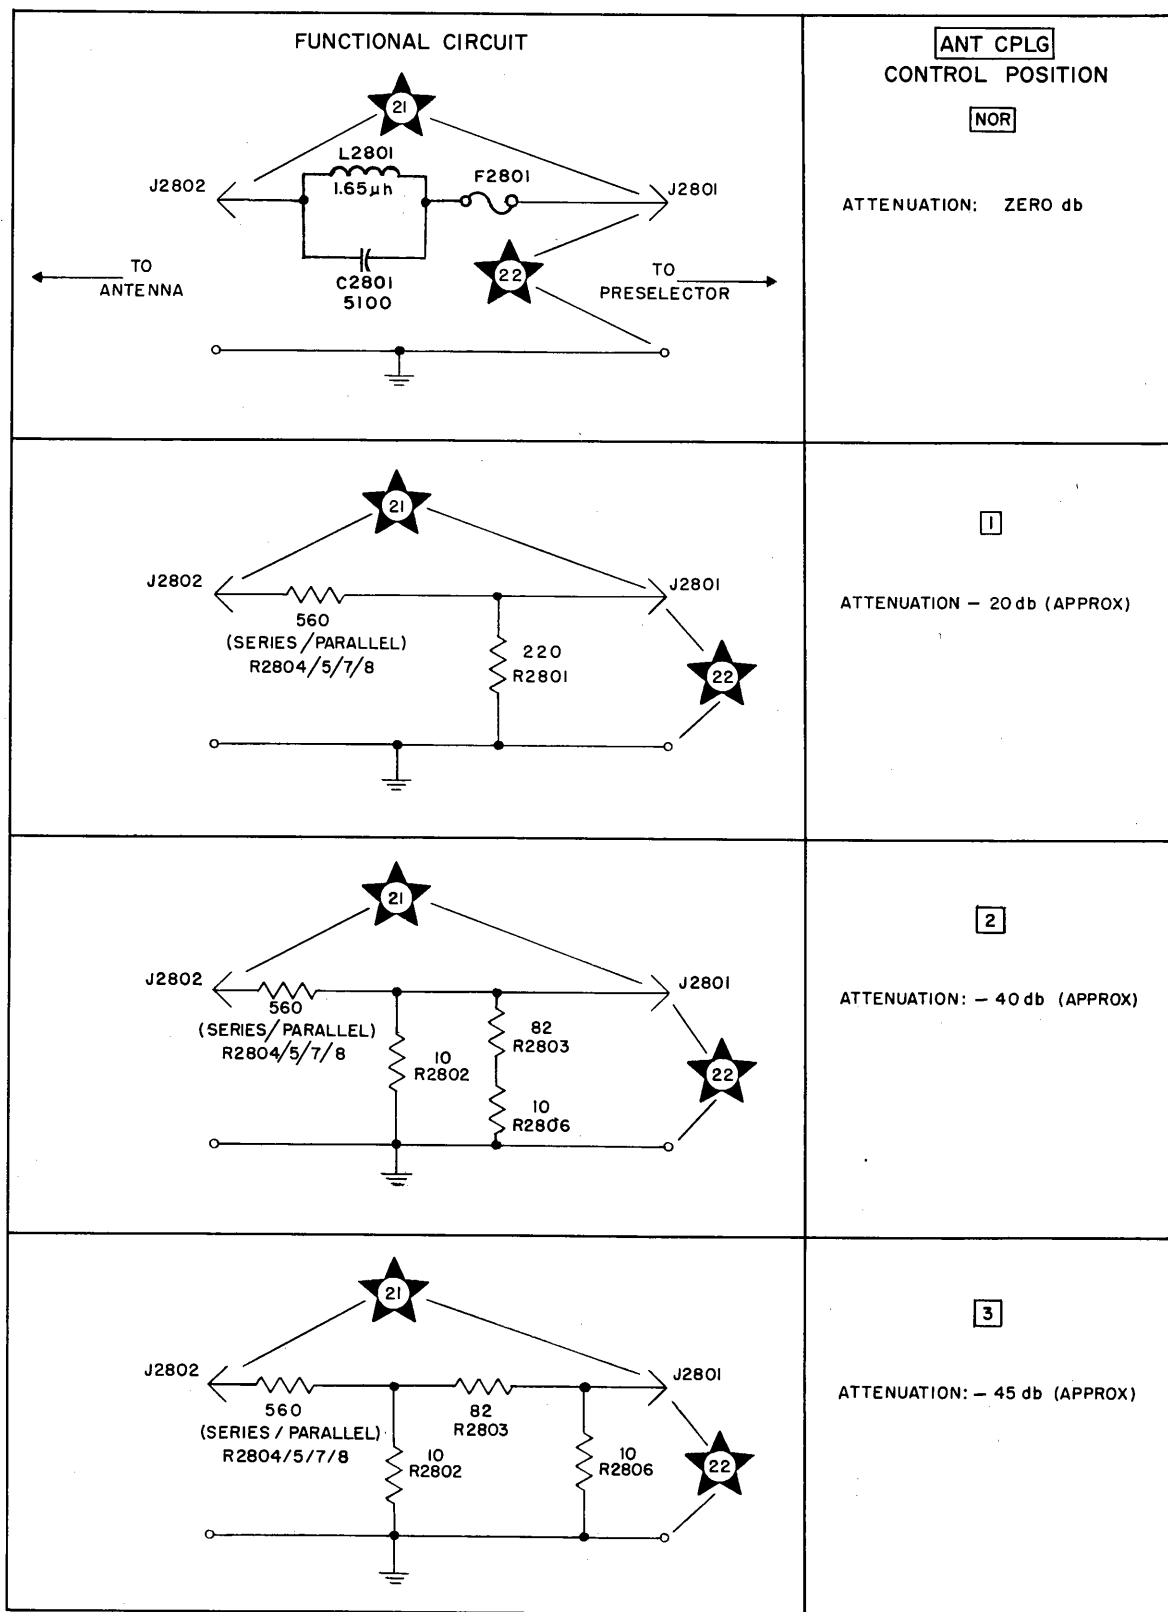

Figure 5-8. Antenna Coupler, Functional Schematic Diagram
*a.* FUNCTION.—The antenna coupler provides three steps of signal attenuation at the input of the receiver. It also contains a protective fuse (F2801) in series with the antenna circuit. Faulty coupler operation will reduce the strength of the signal, with the coupler in NOR. position a blown fuse will cut off the signal entirely, preventing reception. Figure 5-8 is a functional
*e.* ANTENNA COUPLER TROUBLE-SHOOTING.—Figure 5-8 shows separate functioning circuits for each position of the ANT. CPLG. switch. Disconnect